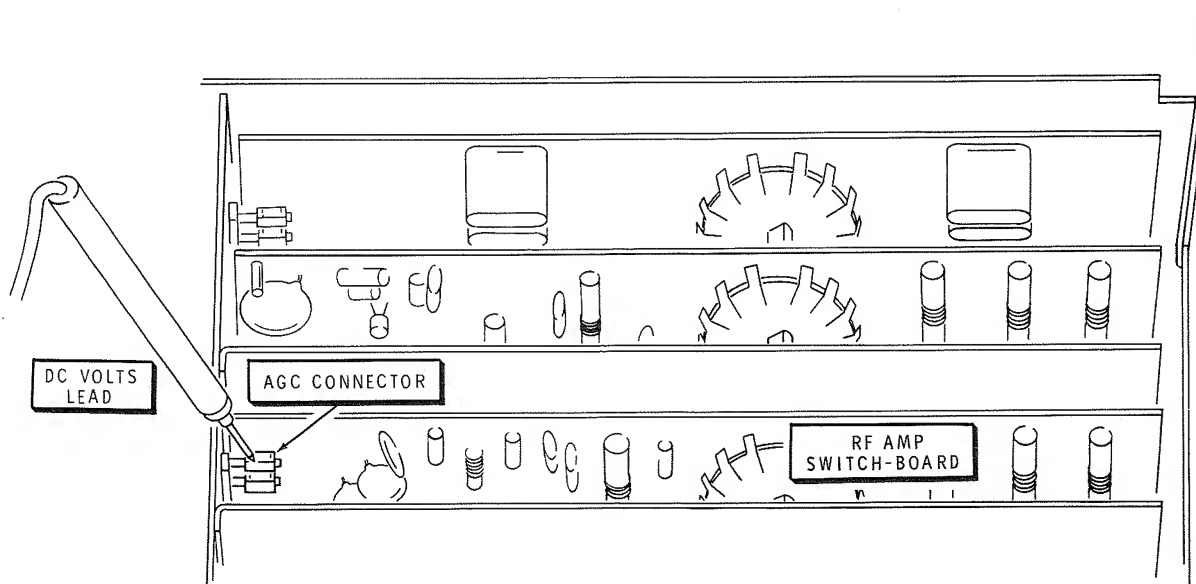

Figure 7
- ( ) Refer to Figure 7 and position the meter dc volts lead against the AGC connector on the RF Amplifier Switch-Board.